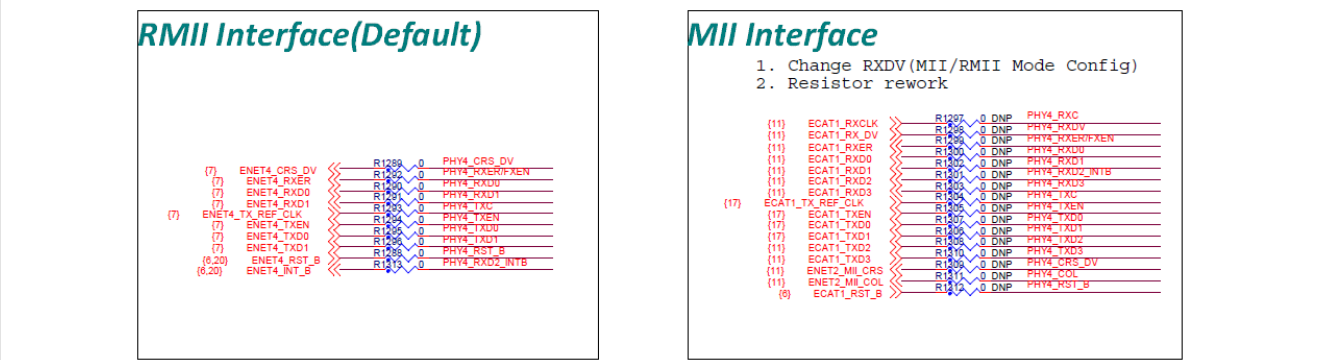

Figure 14. Resistor rework to support MII using ENET4
3. To use the PHY4 in MII mode, resistor rework is required as shown in Figure 14.